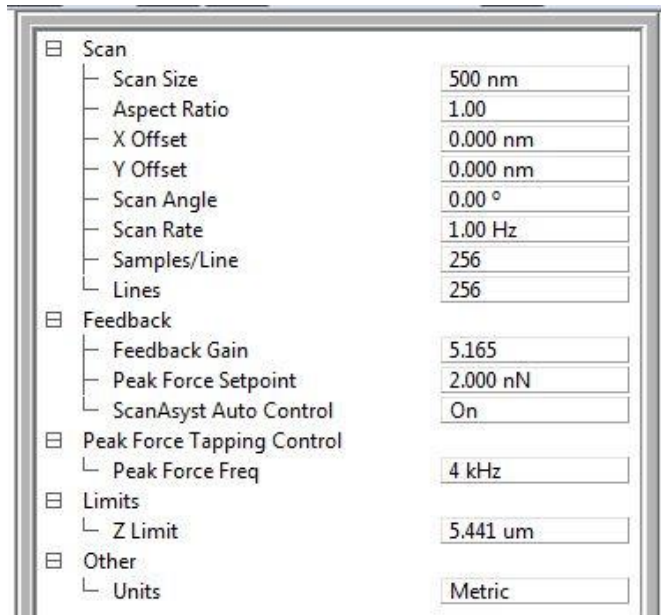

Figure 7) ScanAsyst parameters. Adjust those in the green box if desired and make sure ScanAsyst Auto Control is on; the others are adjusted automatically.
- **Note:** if the laser is aligned and the sum (looks like a speedometer on the digital display, Figure 7) is still below 4-5, try adjusting the lever on back of the AFM head (**part 14**) to tilt the mirror, and thereby redirect laser toward the detector, to maximize the sum